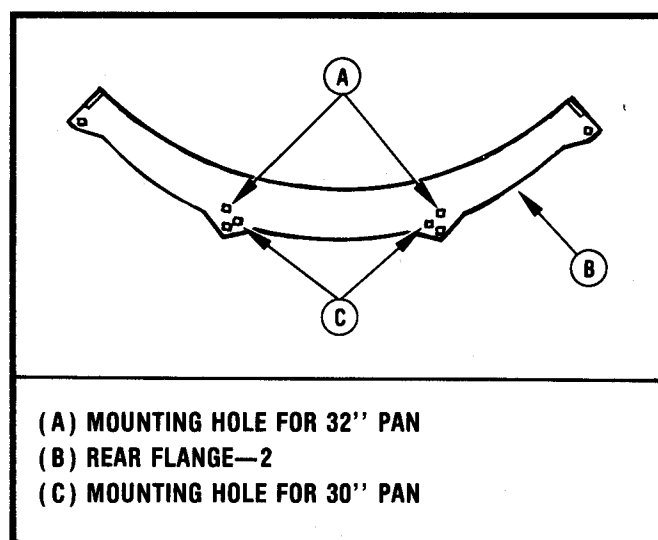

FIGURE 11-6
3. Assemble the rear flange to the mower pan using carriage bolts and locknuts, 1/4-20. See Figure 11-6 and 11-7.